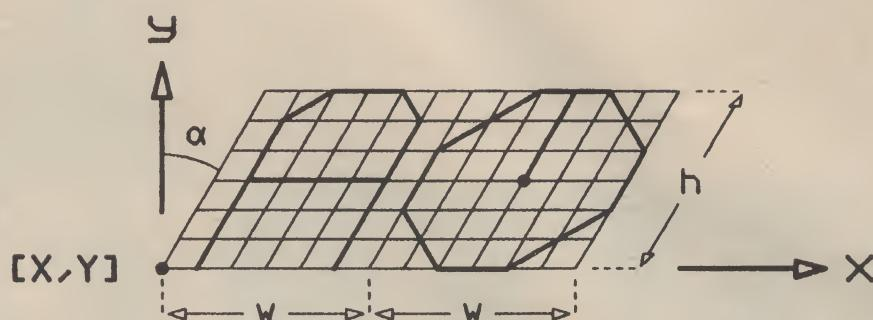

FIGURE 1 : SYMBOLS
CENTRED SYMBOLS - These are CHR\$(1)-CHR\$(12). The origin (X,Y) is defined in the centre of the symbol (the fat dot in the middle of the right symbol in figure 1)
- For all other symbols the origin is defined at the bottom-left of a grid of 7*7 lines (see "A" in figure 1). Note that the left and rightmost lines are not used and the actual width of the character is 2/3 W (the space between two characters is 1/3 W). The symbols 14-31, 96 and 123-149 are special GREEK and MATHEMATICAL symbols that are not in the Commodore set normally. Numbers 32-95